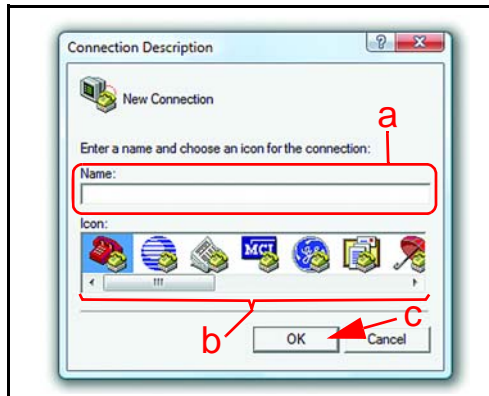

Figure 5 HyperTerminal Connection Description Dialog Screen
2. Enter a name for the new HyperTerminal connection in the Connection Description Name: Field (See Figure 5 a).
3. Select an ICON from the Slider Bar to identify the connection (See Figure 5 b).
4. Mouse-click on the "OK" Screen Button to record the Connection Description and selected Icon (See Figure 5 c).
Screen Button to record the Connection Description and selected Icon (See Figure 5 c).